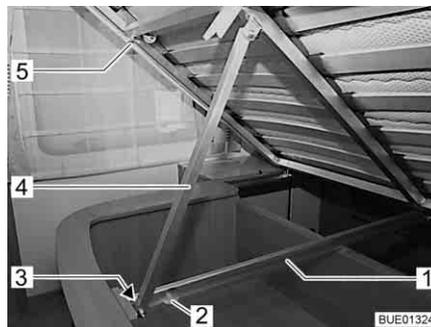

Fig. 127 Fixed bed
- Lift up the slatted frame (Fig. 127,5) and push it upwards until the bar (Fig. 127,4) in the guide rail (Fig. 127,1) has reached the end position (Fig. 127).
- Lift up the slatted frame (Fig. 127,5) and push back the bar (Fig. 127,4) at the lower end. Ensure that the roller (Fig. 127,3) at the end of the bar near the access opening (Fig. 127,2) does not become detached from the guide rail (Fig. 127,1).